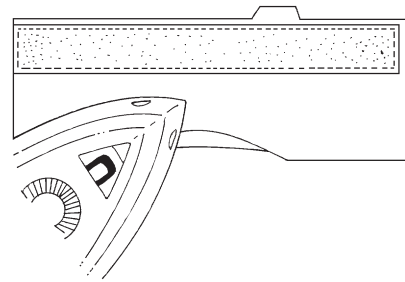
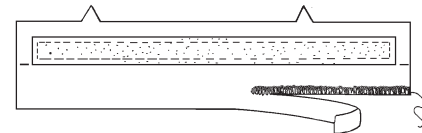

Fig. 12-2 Press the unnotched side of the waistband under along the seam line.
Fig. 12-3 As an alternative, you can serge the unnotched edge of the waistband.
4. On the unnotched edge, press the seam allowance to the wrong side along the seam line. (Fig. 12-2) As an alternative, you can serge the unnotched edge along the seam line, trimming away the seam allowance as you serge. (Fig. 12-3)